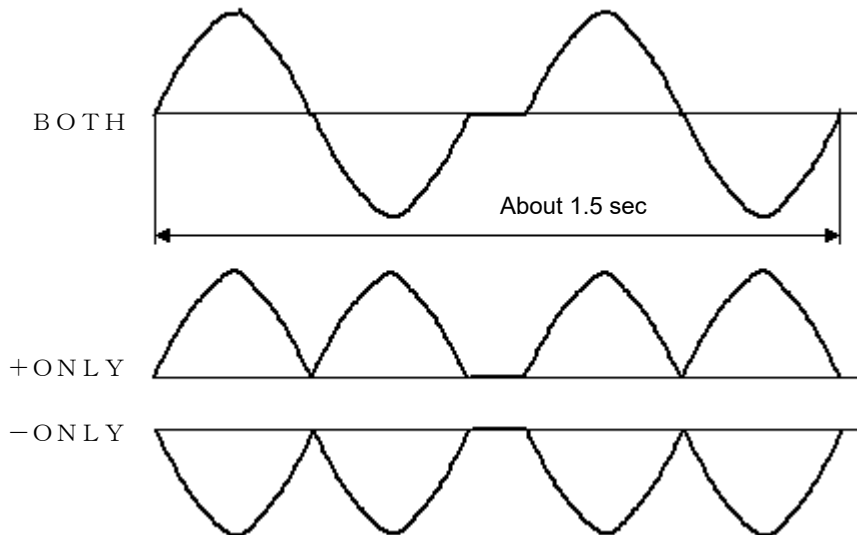

Figure 9-5 Auto-tuning test run*⁹
*⁹ Figure 9-5 is an example when regular inertia is selected. When big inertia is selected, operation distance and operation time are doubled; thus, pay attention.